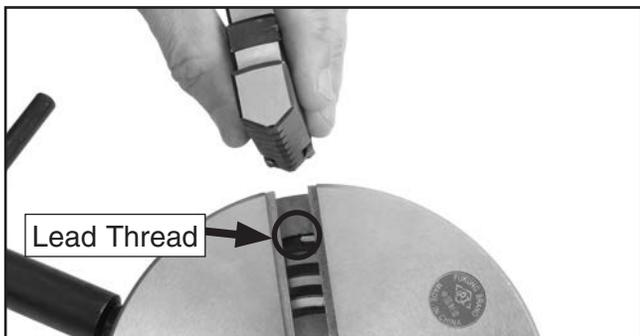

Figure 31. Lead thread on scroll gear.
6. Rotate the chuck key clockwise until you see the tip of the scroll-gear lead thread just begin to enter a jaw guide (see **Figure 31**).